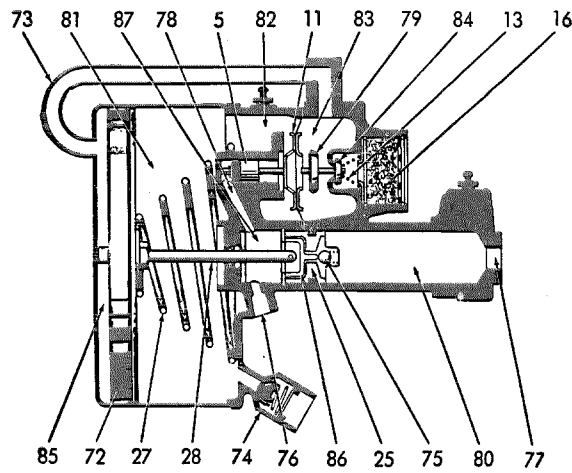

Fig. 42 — 0/15
The hydraulic line from the brake master cylinder is attached at (76) (Fig. 42—0/15). Brake fluid passes through the passage (78) behind the valve piston (5) of the control valve, and past the ball check valve (75) of piston (25) into the slave cylinder chamber (80). Vacuum is transmitted through the vacuum check valve (74) to the cylinder chamber (81) and the valve chamber (82) on the one hand, and via the diaphragm (11) and the vacuum poppet (79) to the valve chamber (83) on the other hand. The atmosphere poppet (84) is held on its seat by the spring (13) and by the atmospheric pressure, thus shutting off the valve chamber (83) from the atmosphere. The valve chamber (83) is connected to the cylinder chamber (85) by the control tube (73) so that there is an equal degree of vacuum on both sides of the piston (72).
In the release position (Fig. 42—0/15) the piston (72) is held to the left in the vacuum cylinder by the piston return spring (27). In this position the yoke (86) of the hydraulic slave piston (25) is against the piston stop washer, and the ball of the check valve (75) is lifted from its seat. The valve piston (5) is at its extreme left position, thus separating the poppet (79) from its seat at the diaphragm (11).